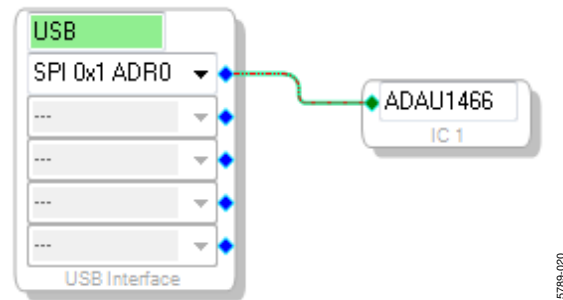

Figure 18. Connecting the USBi to an ADAU1466 in the Hardware Configuration Tab
- c. To connect the **USBi** block (USB interface) to the target integrated circuit (IC) block, the **ADAU1466**, click and drag a line, representing a wire, between the blue pin of the **USBi** and the green pin of the IC (see Figure 18). This connection allows the **USBi** to communicate with the **ADAU1466**. The corresponding dropdown box of the **USBi** automatically fills with the default mode and channel for that IC. In the case of the **ADAU1466**, the default communications mode is SPI, the default slave select line is 1, and the default address is 0.